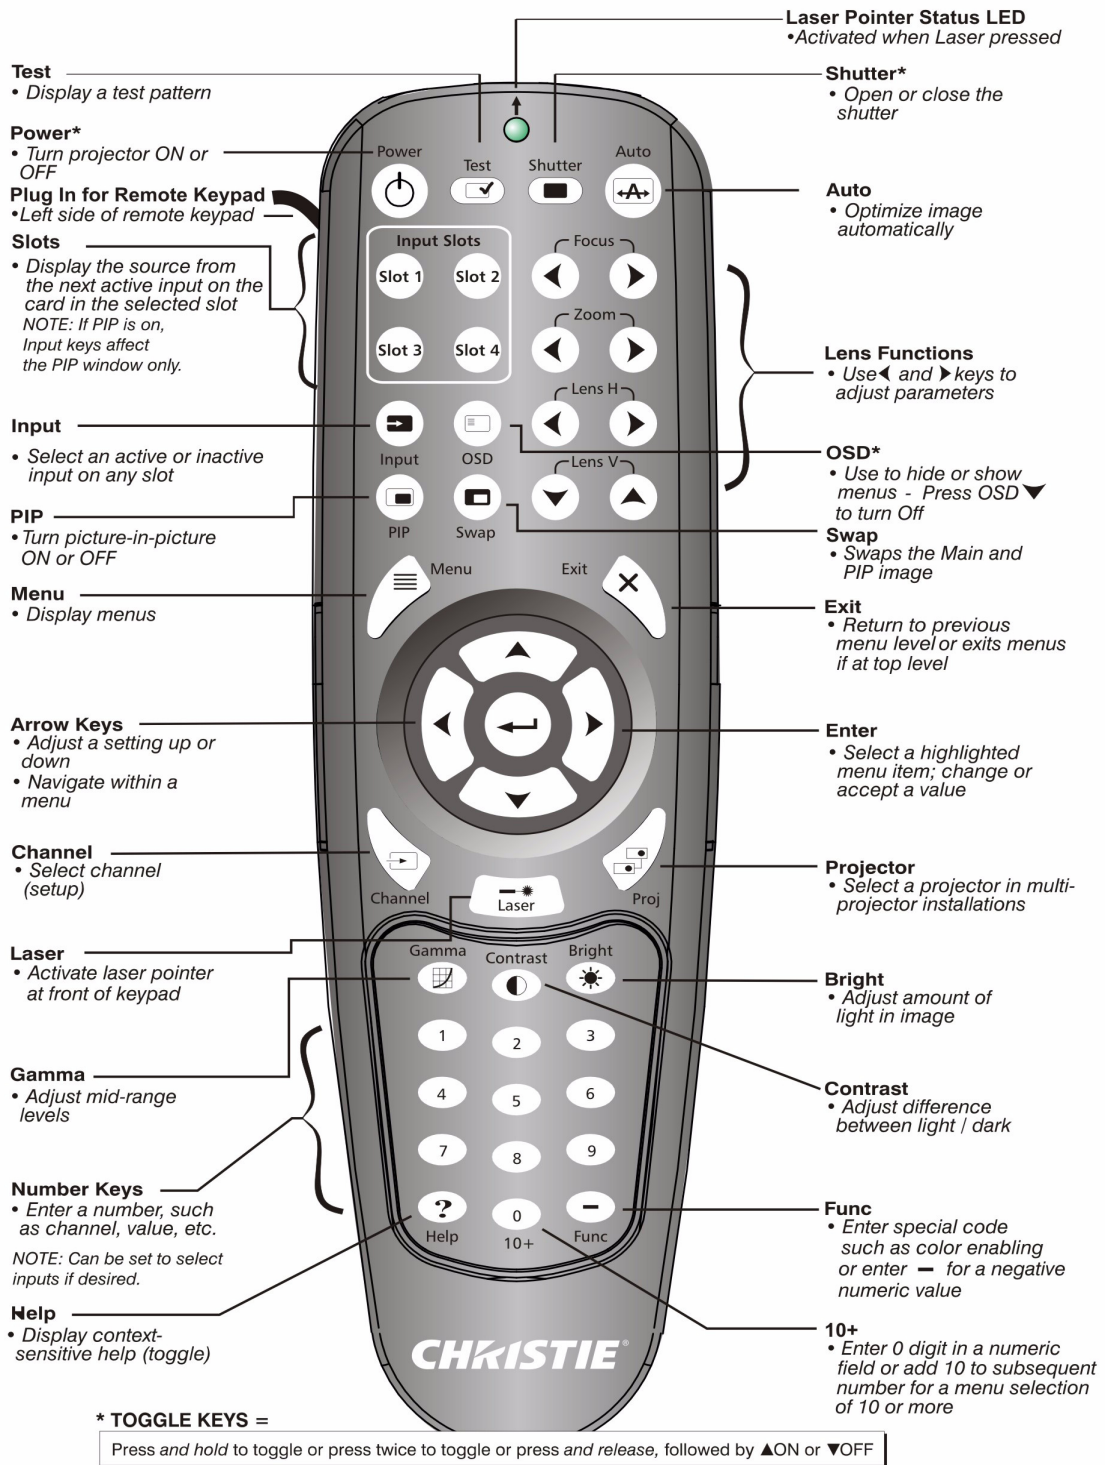

FIGURE 3-1 - REMOTE KEYPAD
- **Remote Keypad** for wired or wireless control up to 25 feet (8m) away (includes cable for use as a wired remote), see Figure 3-1 - Remote Keypad.
*NOTE: Power,  Shutter,  and OSD function by: “press-and-hold” (2 seconds), press twice quickly, or press key and up arrow to switch on or press key and down arrow to switch off, see Figure 3-1 - Remote Keypad.*
Refer to the key descriptions provided for the remote keypad, see Figure 3-1 - Remote Keypad.
Specific keypad commands are explained, see Figure 3-1 - Remote Keypad: